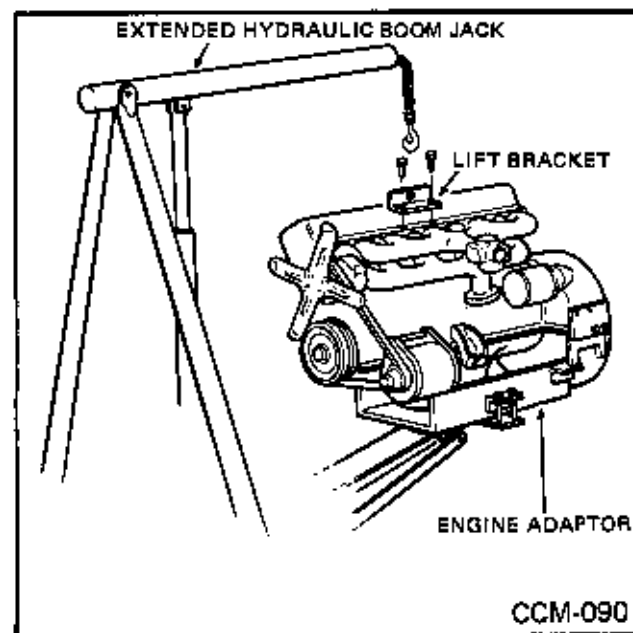

Fig. 85
18. Fasten extended hydraulic boom jack to lift bracket. (Fig. 85)
19. Raise extended boom jack slightly to relieve engine weight on engine adaptor and remove. (Fig. 85)